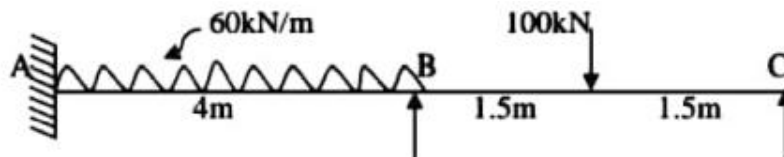

Fig.5
7. Analyse the continuous beam shown in Fig.5 by flexibility method,